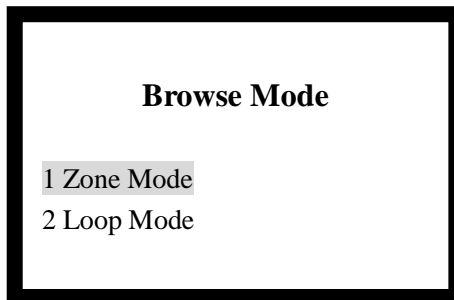

Fig. 6-5
- ✧ Input number 2, you can enter the screen for setting browse mode, as shown in Fig. 6-5. 1 is for zone mode, and 2 is for loop mode.